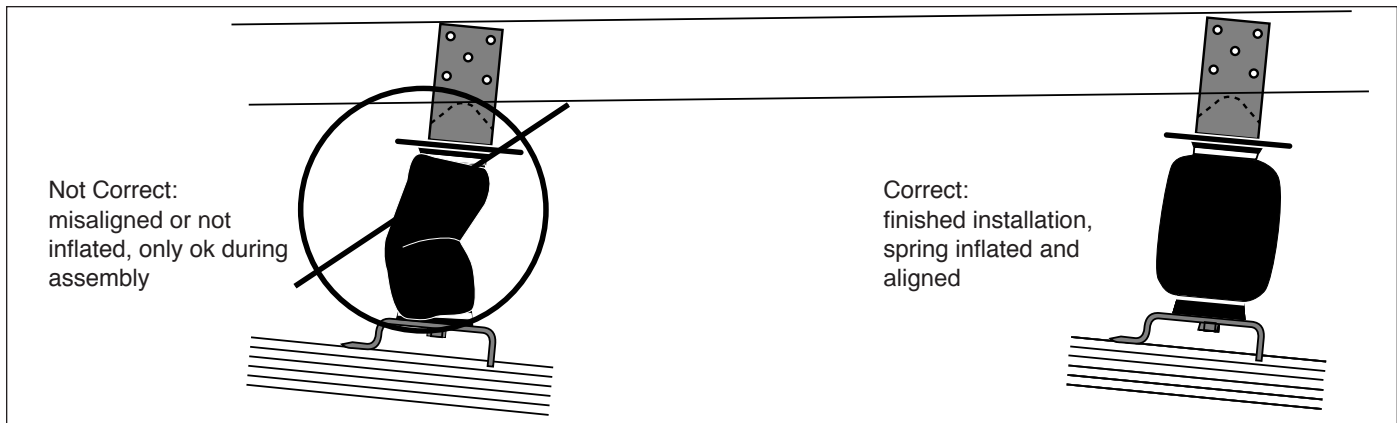

Figure 9
4. Should it become necessary to raise the vehicle by the frame, make sure the system is at minimum pressure (5 p.s.i.) to reduce the tension on suspension/brake components. Check to see that the air spring rolls back down over the bottom piston after the vehicle is lowered (Figure 9). If sleeve fails to roll back down over the piston, add air pressure until sleeve "pops" back over piston (do not exceed 100 p.s.i.).